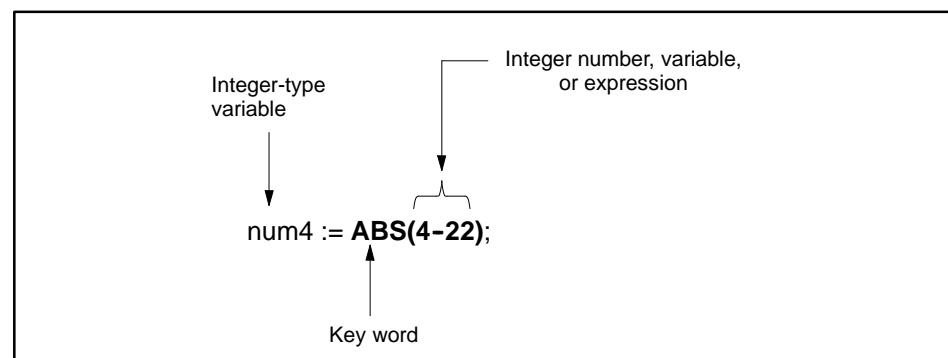

Figure 11-2 ABS Integer Function
- Series 505 RLL can use only integer; refer to Figure 11-2.